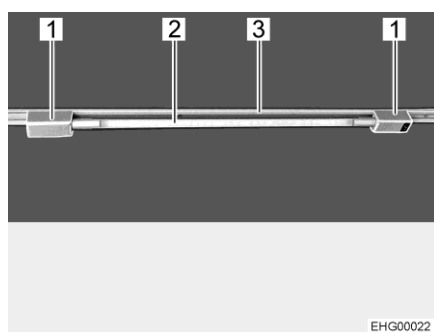

Fig. 28 Fluorescent tube
*Inserting fluorescent tube:* ■ Insert both brackets (Fig. 28,1) into the rail (Fig. 28,3). In order to do this, turn bracket through 90°. ■ Plug lamp body (Fig. 28,2) into one of the brackets. ■ Shift the other bracket up to the lamp body until a firm connection has been made.
*Turning fluorescent tube:* ■ Turn lamp body handle (Fig. 28,2) until the desired lighting effect is achieved.